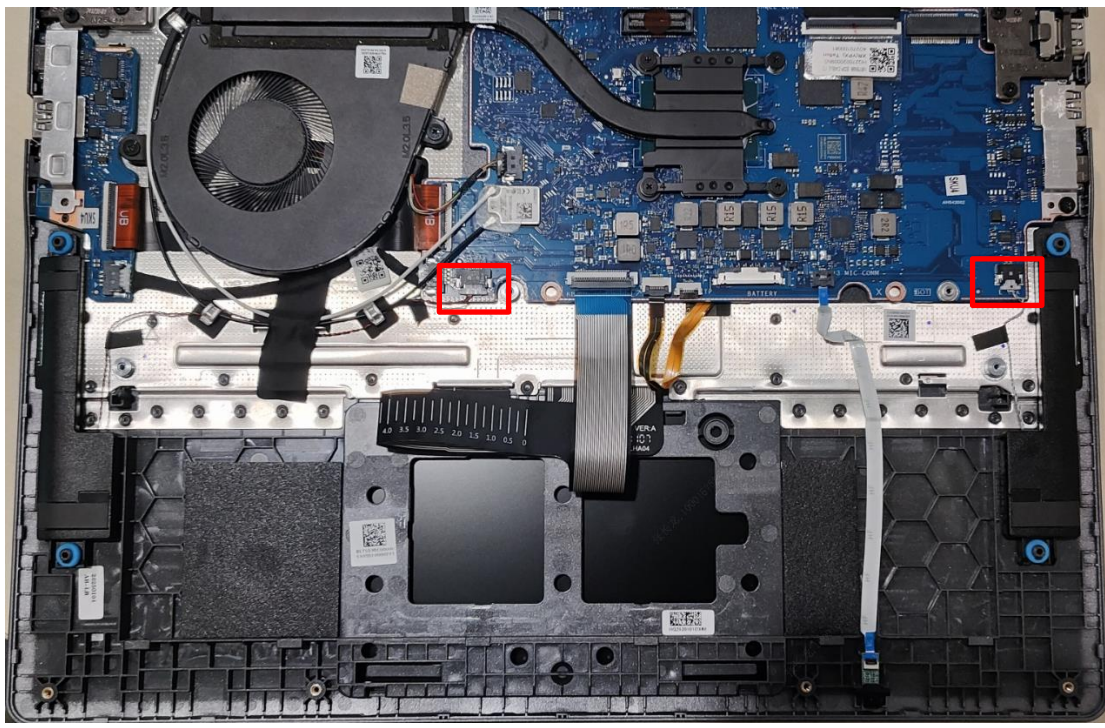

Figure 3-76. Replacing the Speaker Module
2. Connect the speaker R cable to the USB board connector (Figure 3-76).
3. Connect the speaker L cable to the mainboard connector (Figure 3-76).